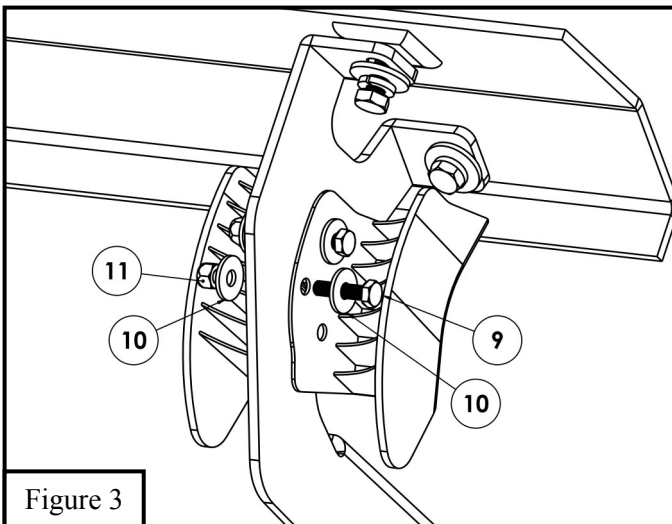

Figure 3
4. Locate (1) Plastic Bracket Cover (Item 5) and loosely secure it to the (6) brackets using the provided hardware: (2) M6 hex head cap screw, (4) M6 flat washer, and (2) M6 nylon lock nut (Items 9-11) . Repeat for every bracket. **See Figure 3.**